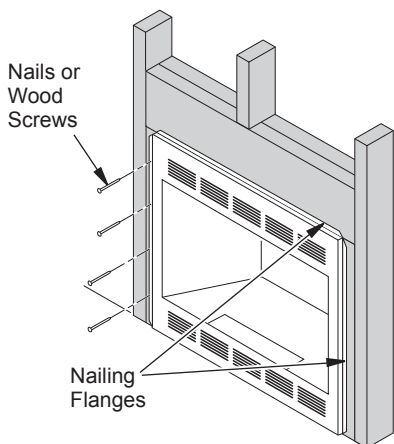

Figure 7 - Attaching Firebox to Wall Studs
5. Attach firebox to wall studs using nails or wood screws through holes in nailing flange (see Figure 7, page 10).